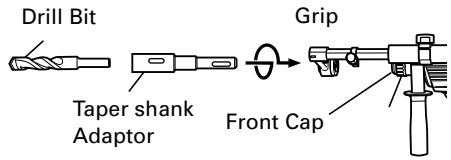
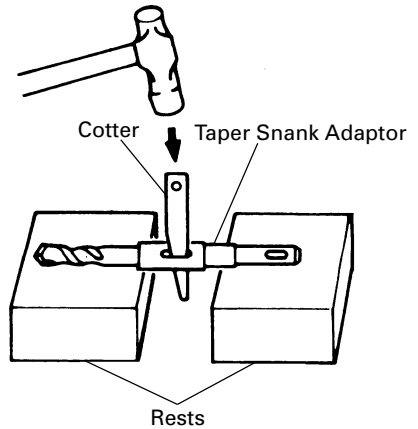

Fig. 18
Fig. 19
- (1) Mount the taper shank adaptor to the rotary hammer. (Fig. 18)
- (2) Mount the drill bit (taper shank) to the taper shank adaptor. (Fig. 18)
- (3) Turn the switch ON, and drill a hole in prescribed depth.
- (4) To remove the drill bit (taper shank), insert the cotter into the slot of the taper shank adaptor and strike the head of the cotter with a hammer supporting on the rests. (Fig. 19)